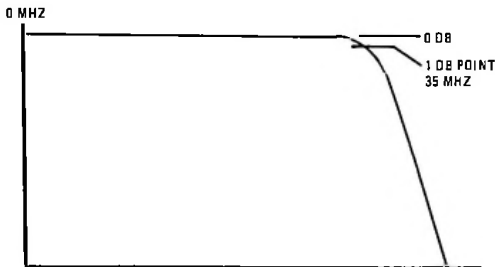

Figure 4. 35 MHz LP Filter Adjustment
f. Locate L1 and L2 (see figure 10) on Filter Control PWB Assembly A2A4A2. (Adjustment access holes are provided through the circuit board.) Adjust L1 and L2 so that the marker is at the -1 dB point on the response curve and for best overall shape as shown in figure 4. Insertion loss within the pass band should be no more than 4 dB below the 0 dB reference line.